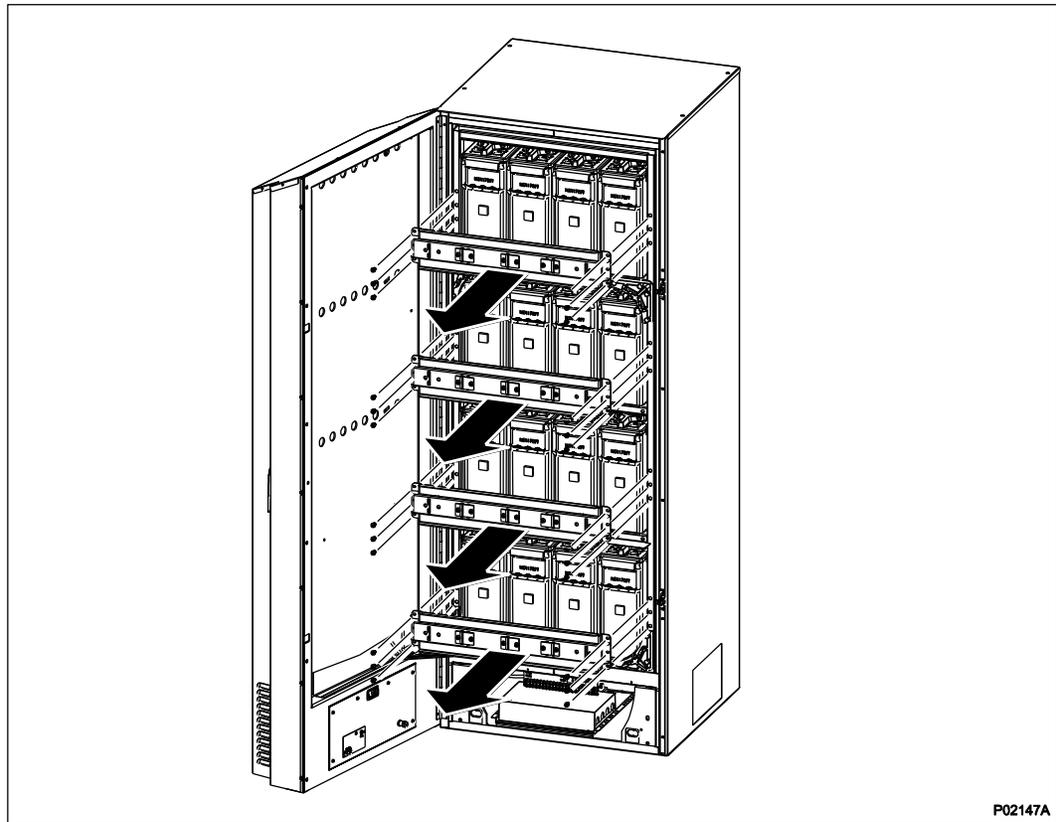

Figure 10 Remove Front Bars
2. Remove the front bars as in Figure 10.